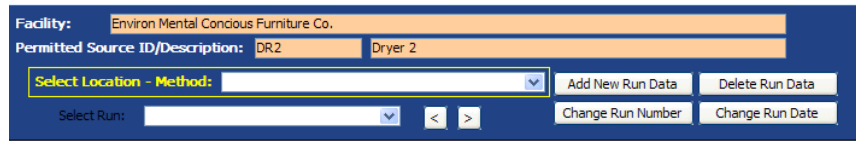

Figure 34 - Run Data Details
- Click “**Run Data**” in the “**Test Data**” area of the “**ERT- Main Menu**” to bring up the “**Run Data Details**” Screen, as in Figure 34.
- Click “**Add New Run Data**” from the “**Run Data Details**” window (see Figure 34 - Run Data Details).